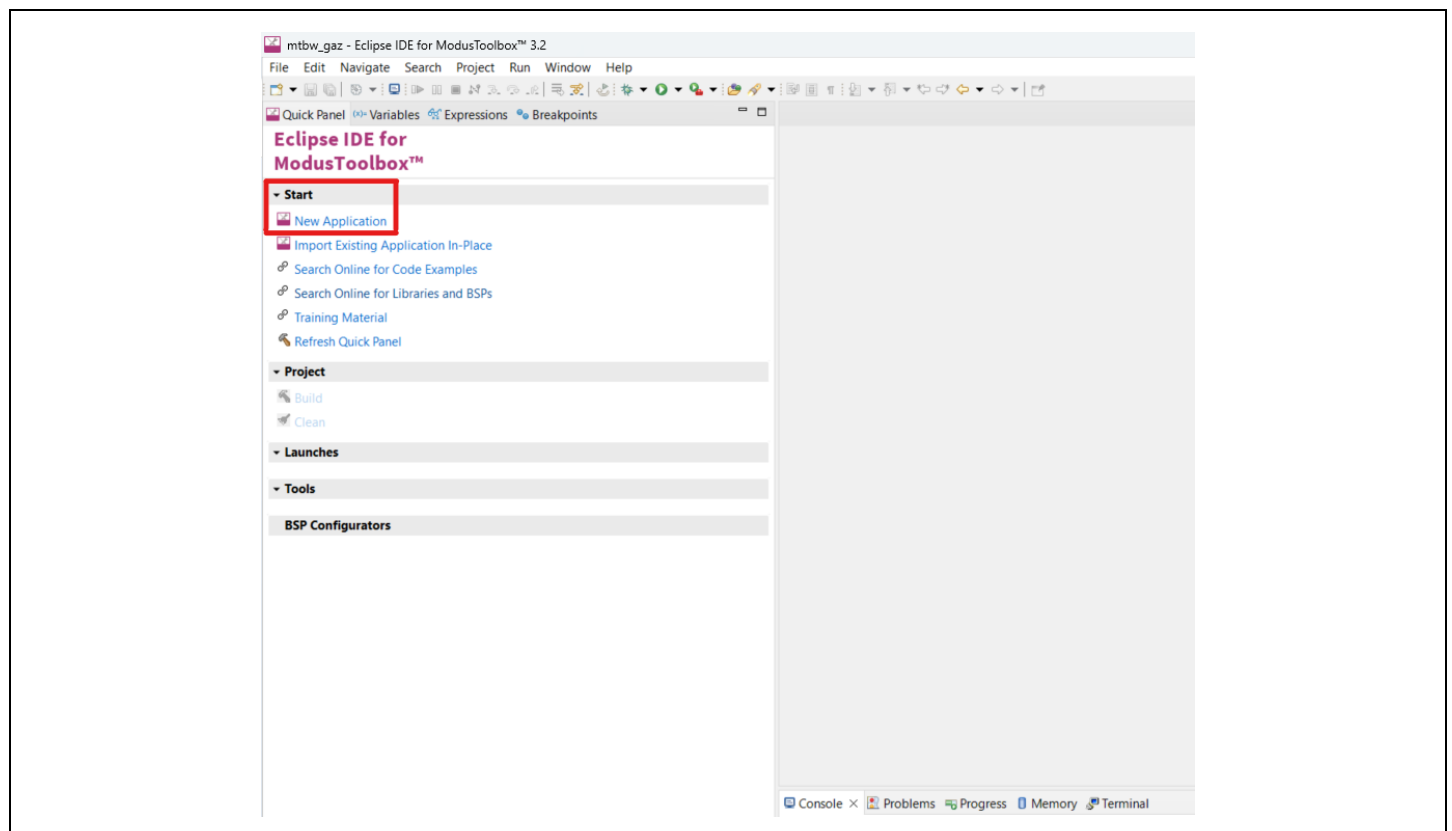

Figure 15 New application in an empty workspace
2. Open project creator by either selecting **File → New → ModusToolbox™** or **Start → New Application** (see Figure 15).